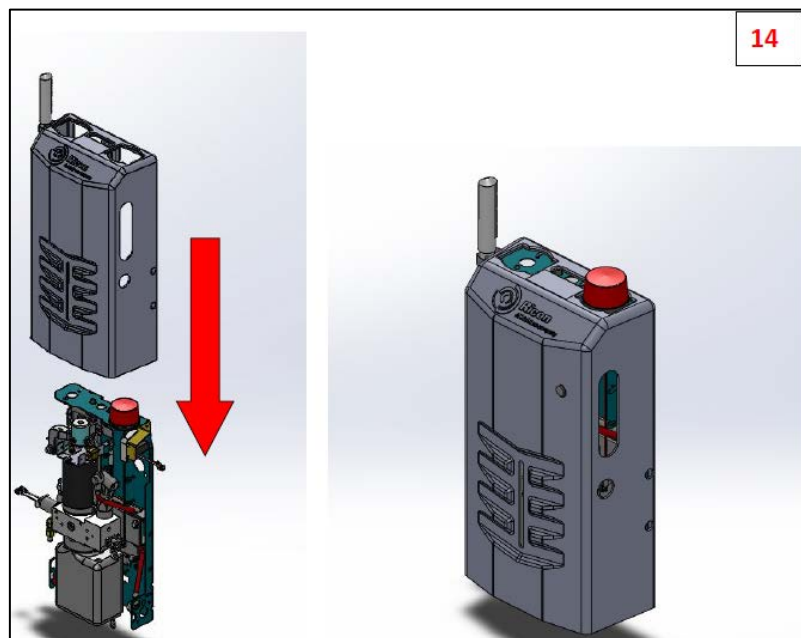

Figure 14: Reinstallation of the Cover
18. Reinstall the cover by sliding it all the way down over the pump assembly. See **Figure 14**.